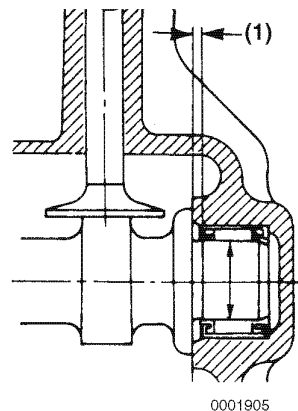

Figure 8-60
1. Measure the installed depth (**Figure 8-60, (1)**) of the camshaft needle bearing on the cylinder block side. Record the measurement.
3. Press the new needle bearing to a depth of 0.055 - 0.059 in. (1.4 - 1.5 mm) (**Figure 8-60, (1)**).